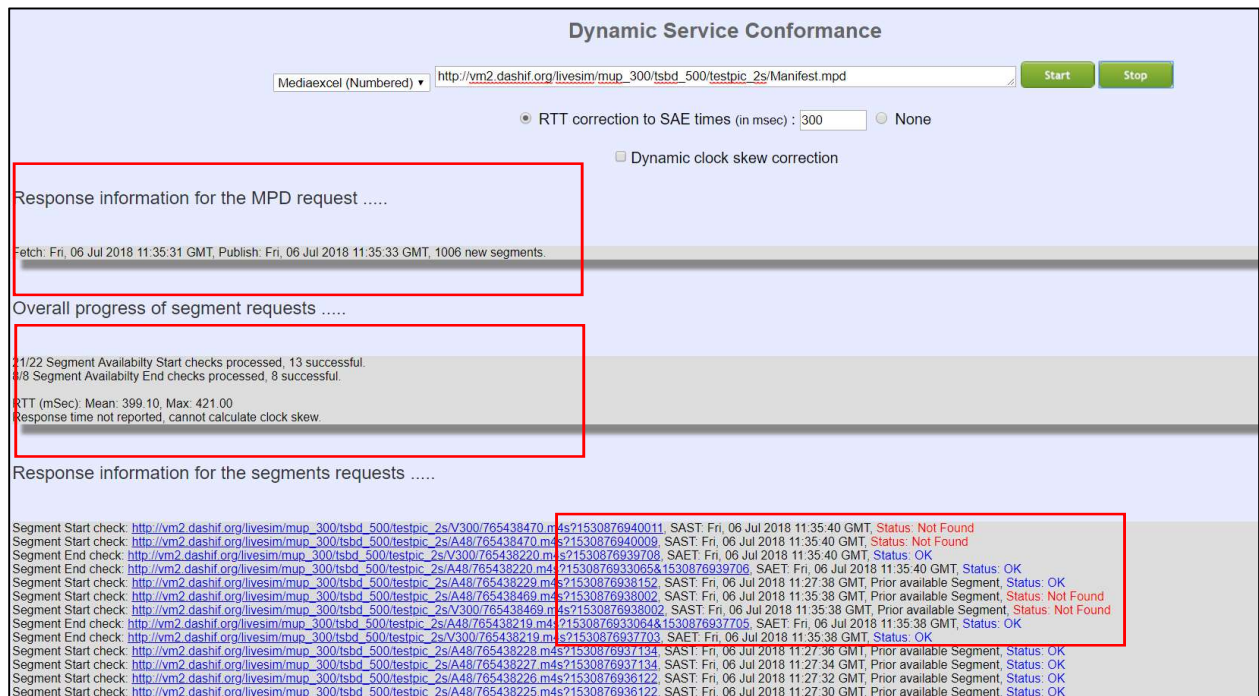

Figure 23 Results of the live conformance
- Results are presented in different sections on the webpage as shown in Figure 23. They are titled as 'Response information for the MPD request' (displaying MPD fetch and publish times, number of available segments), 'Overall progress of segment requests' (displaying number of successful checks, mean RTT and clock skew), and 'Response